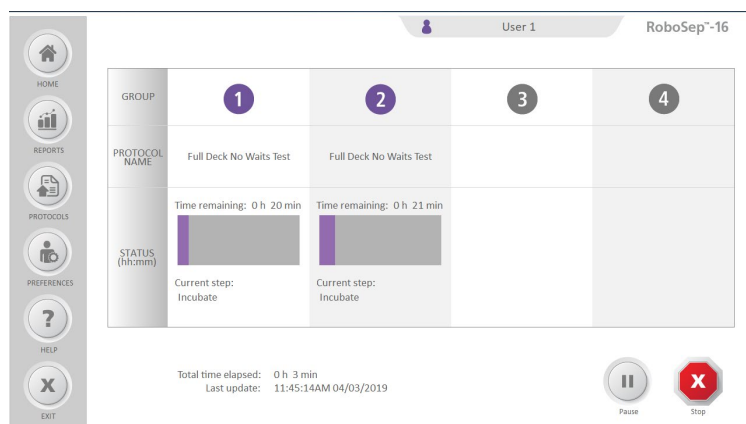

Figure 20. Run Progress Screen
11. Select  [Run] on the Loading Deck screen to start the protocols. A Run Progress screen will appear (Figure 20). RoboSep™-16 homing will occur as well as barcode scanning (section 1.4).